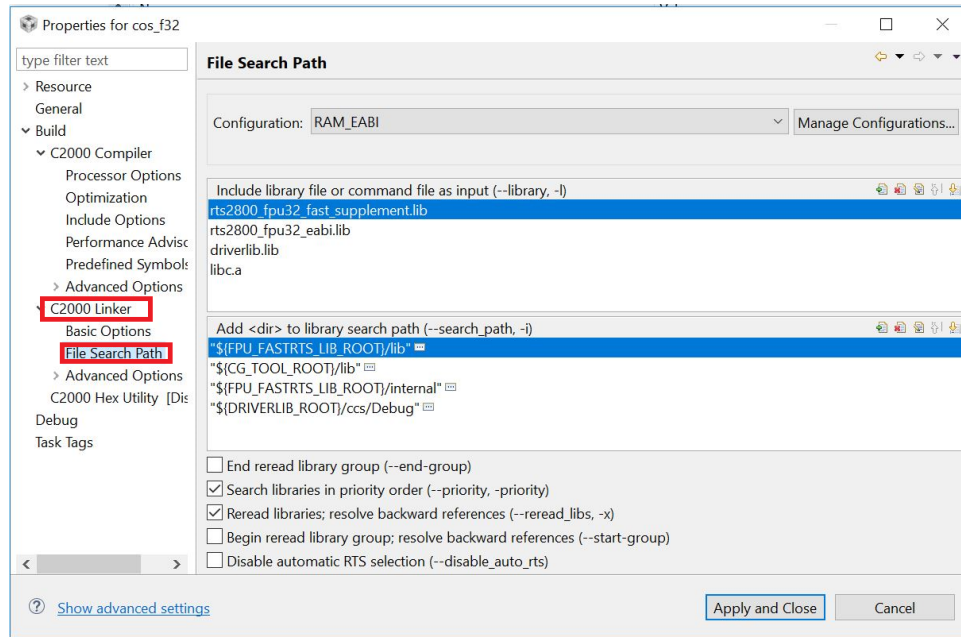
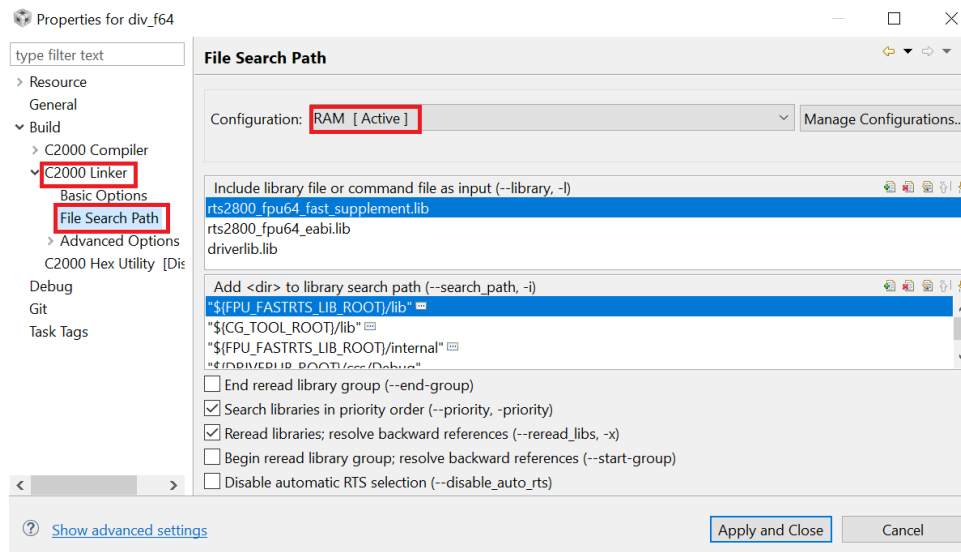
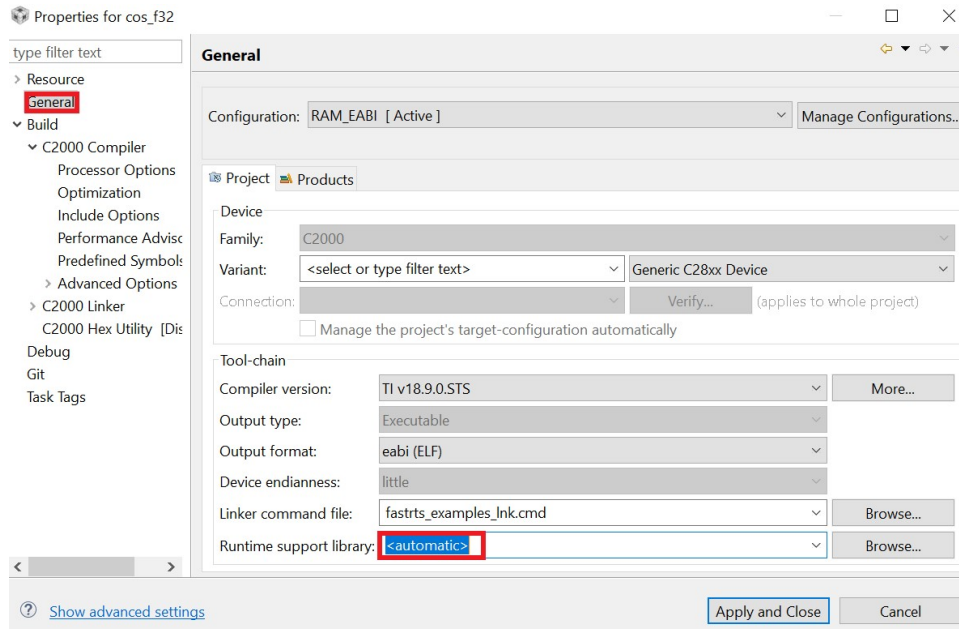

Figure 4.8: Adding the library and location to the file search path
Figure 4.9: Adding the library and location to the file search path
Figure 4.10: Selecting the Runtime Support Library
4. Add the name of the library and its location to the **File Search Path** as shown in Figure 4.8 and Figure 4.9. For the single precision DSP library add **rts2800_fpu32_fast_supplement.lib**, and **rts2800_fpu64_fast_supplement.lib** for the double precision library.
- In the project properties clear the *Runtime Support Library* option, as shown in Figure 4.10, or set it to auto. If you wish to include one of the other run time support libraries in your project, add it from the *File Search Path* option, as shown in Figure 4.8 and Figure 4.9, and place the fastRTS library above the other RTS library and select the **--priority** check box to ensure the compiler pulls the math routines from the fastRTS but the support routines (like